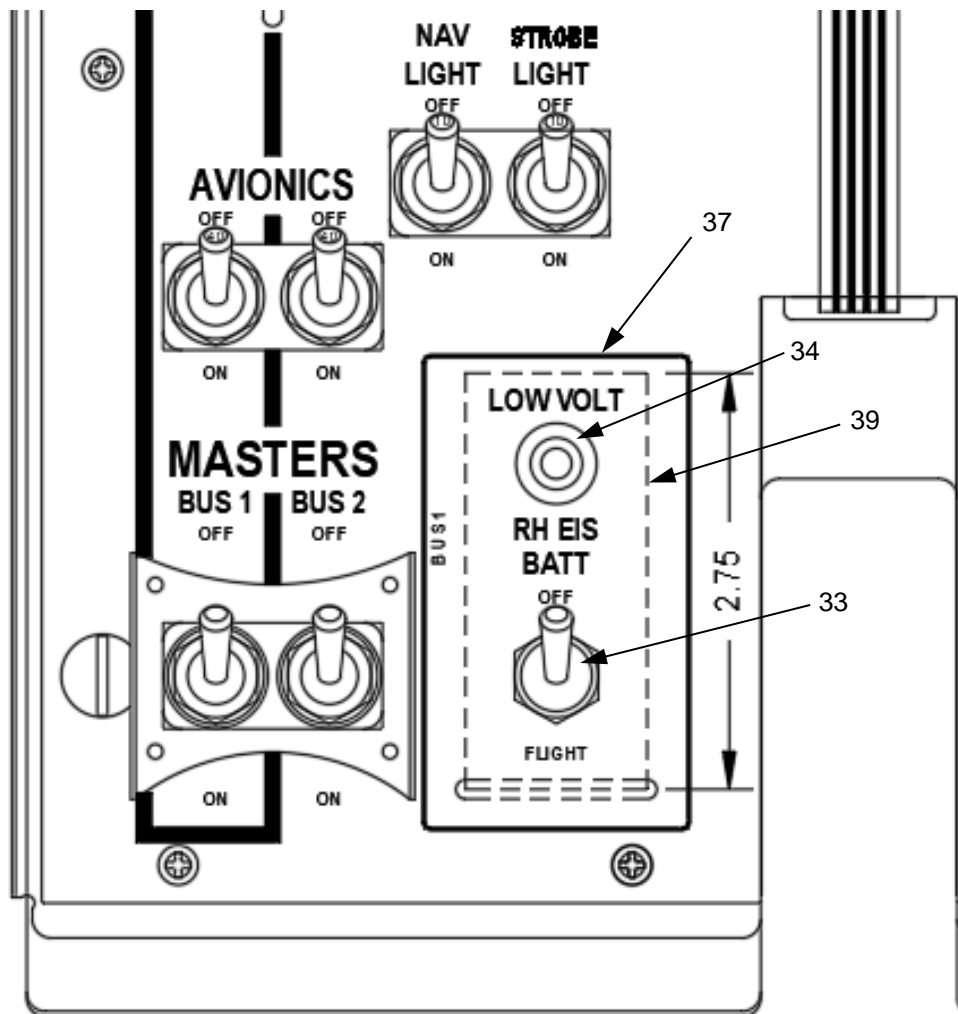

Figure 18 Switch and Indicator installation
37. Connect wire 2JE001A18/1 to J107 Pins 4 & 5 (item 7). Connect the shield wire to the ground point on the battery tray.
39. Carry out a continuity check in accordance with Figure 18.